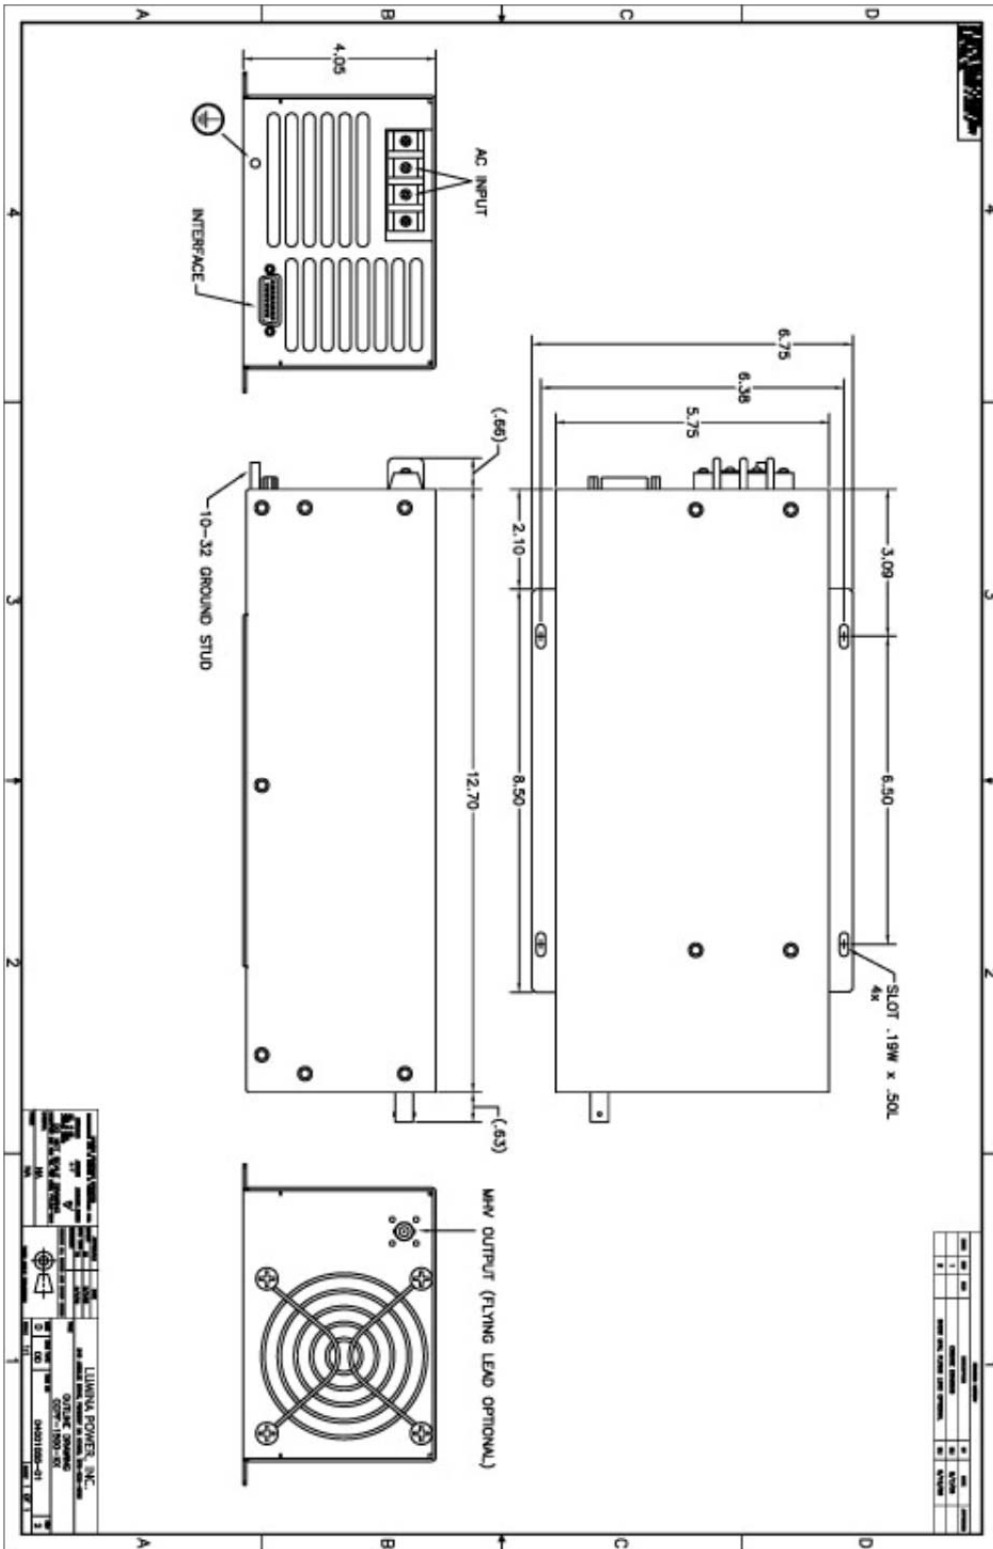

Figure 3. CCPF-1500/2000-XX Outline Drawing
- **Required wire and connectors:** Refer to the Figure 3 below for the locations of connections. Table 1 below shows required cables and connectors:
- **Mounting of chassis:** Refer to Figure 3 below for location of four mounting holes in the power supply flanges.